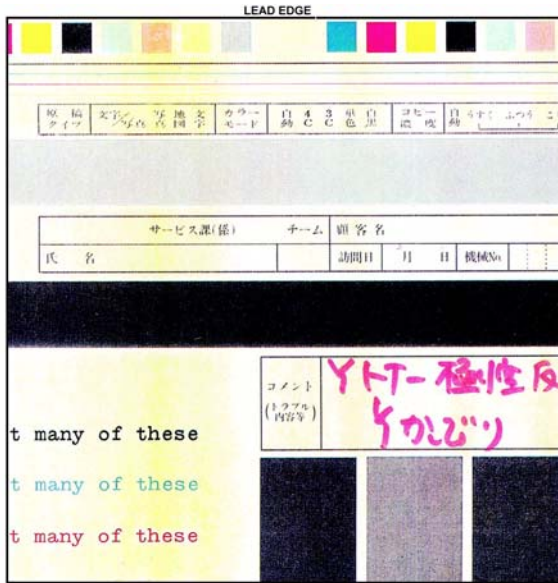

Figure 1 Background Defect Sample
1. Check customer print to verify image defect as in Figure 1.